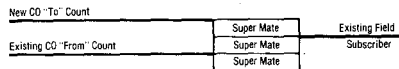

Fig. 21—New count crimped to subscriber.
- (b) Crimp the new C.O. count (transfer "to") module to the subscriber module (See Figure 21) using a 4270 Hand Presser.